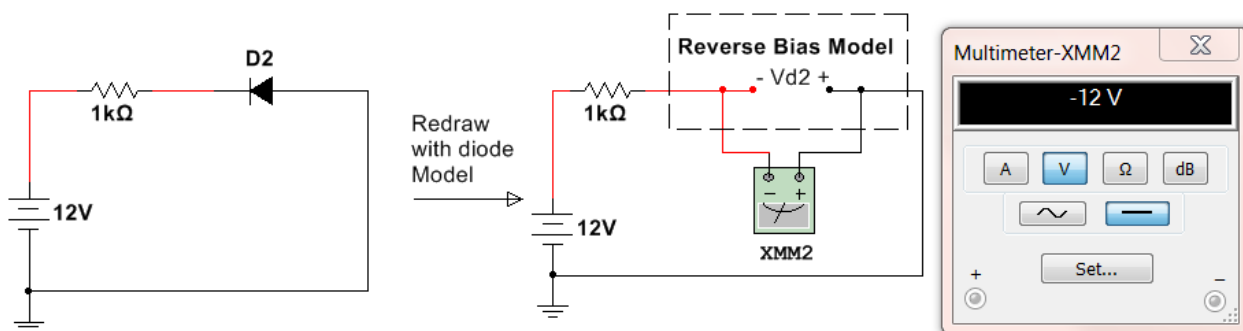

Figure 6.5: Circuit for Example 6.2
- $V_{D2} = -12 \text{ V}$ is verified in Multisim in Figure 6.5.